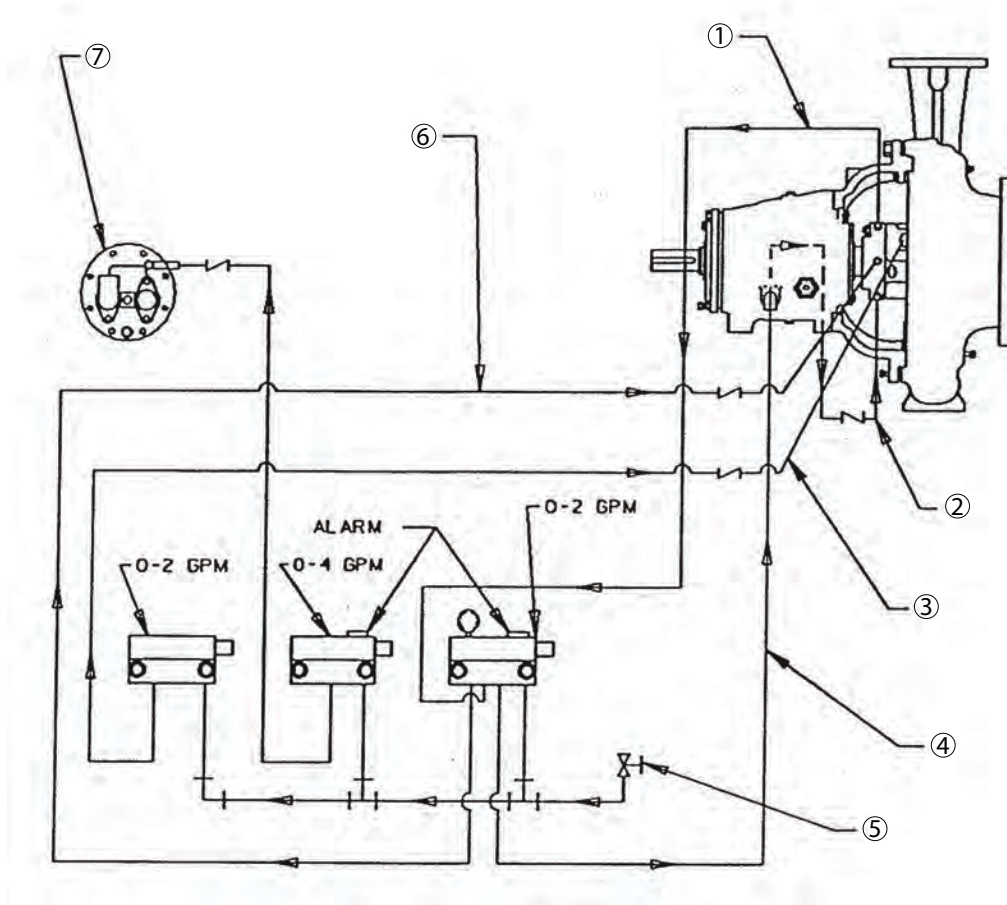

Figure 14:
2. Install coupling guard (Fig. 14).
5.1 Air removal system (Refer to Figure 14)
Refer to IOM Appendix for specific description for each unit. Reference Figure 14.